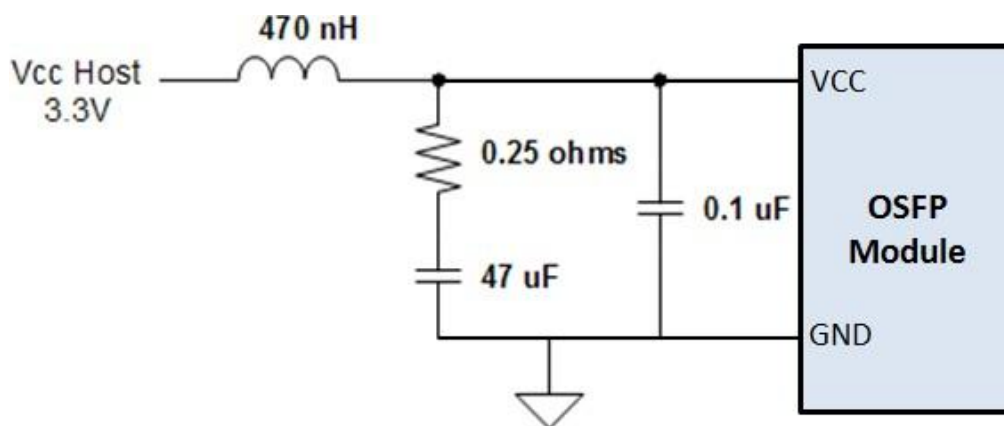

Figure 4. Recommended Power Supply Filter
5. Measured with conformance test signal for BER = 2.4×10^{-4} . A compliant receiver shall have stressed receiver sensitivity (OMA_{outer}), each lane values below the mask of Figure 4, for SECQ values between 0.9 and 3.4 dB.